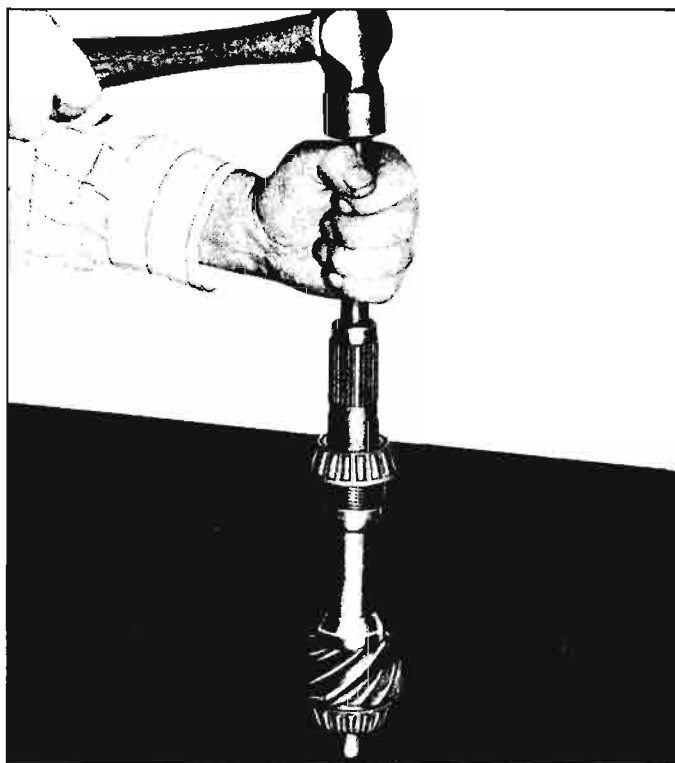

Fig. 6C-43—Installing Pinion Shaft Bushing with J-8333
2. Install new seal using J-8448-1 as illustrated (fig. 6C-42). Press seal until it bottoms.